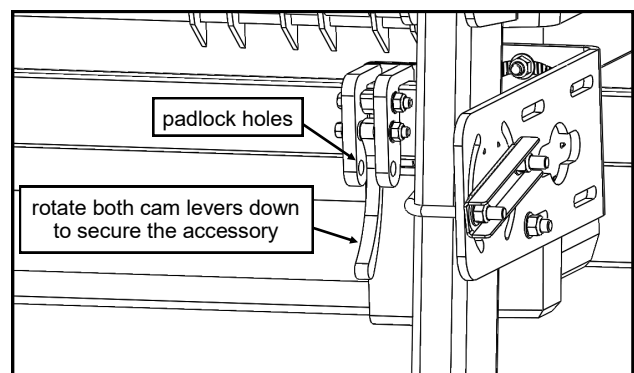

Fig. 3 (cam lever in the closed position)
3. To secure the accessory to the mounting bar, rotate both cam levers DOWN until they cam over. See fig. 3.